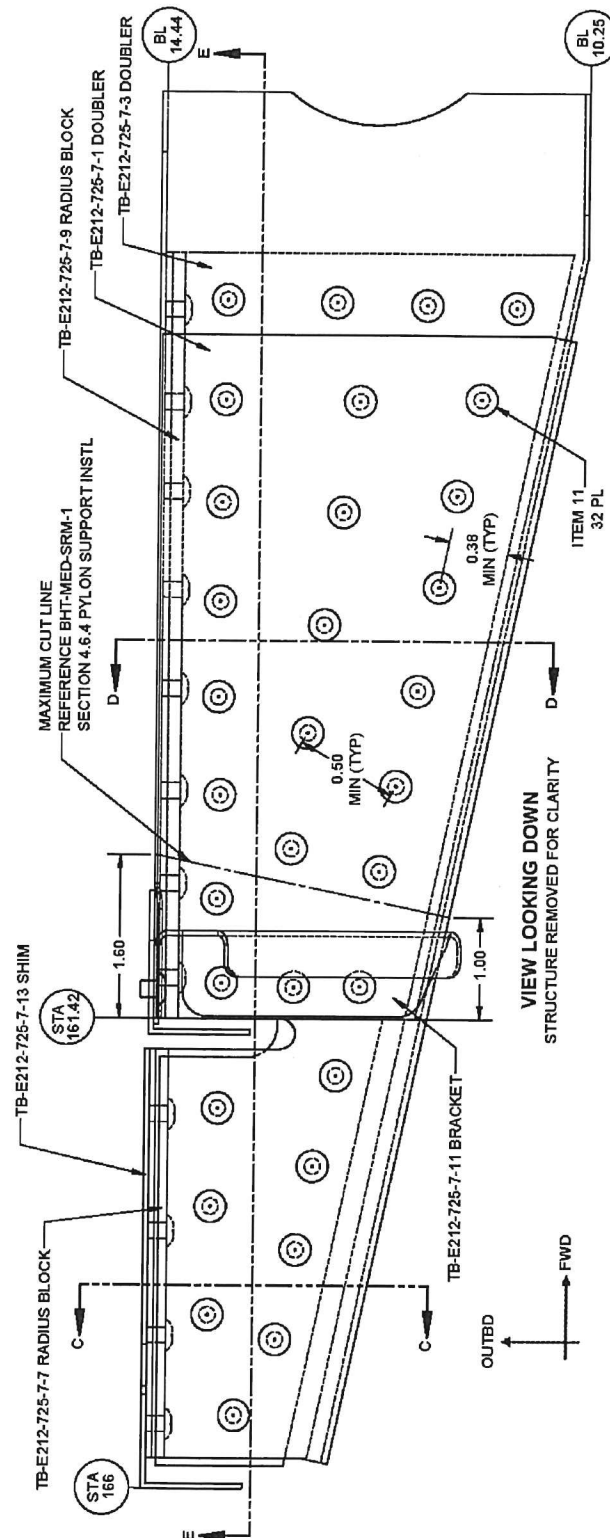

Figure 6 TB-E212-725-7-101 Installation (-102 Opposite)
10. Locate all parts in position and drill new fasteners using fastener pattern shown in Figure 6. Maintain proper edge distance and spacing. Transfer existing fastener holes, same size as originals. Trim parts to fit as required, maintaining proper edge distance, and spacing.
13. Locate and bond all parts in position using item 13 (bonding adhesive), in accordance with BHT-MED-SRM-1 3-2-7 Bonding of Flat Stock.
14. Secure all parts using new fasteners, (item 11 and item 12) of the original type and size in the original locations, as shown in Figure 6 and 7. Install all rivets wet with item 13 (bonding adhesive) while adhesive is still wet.